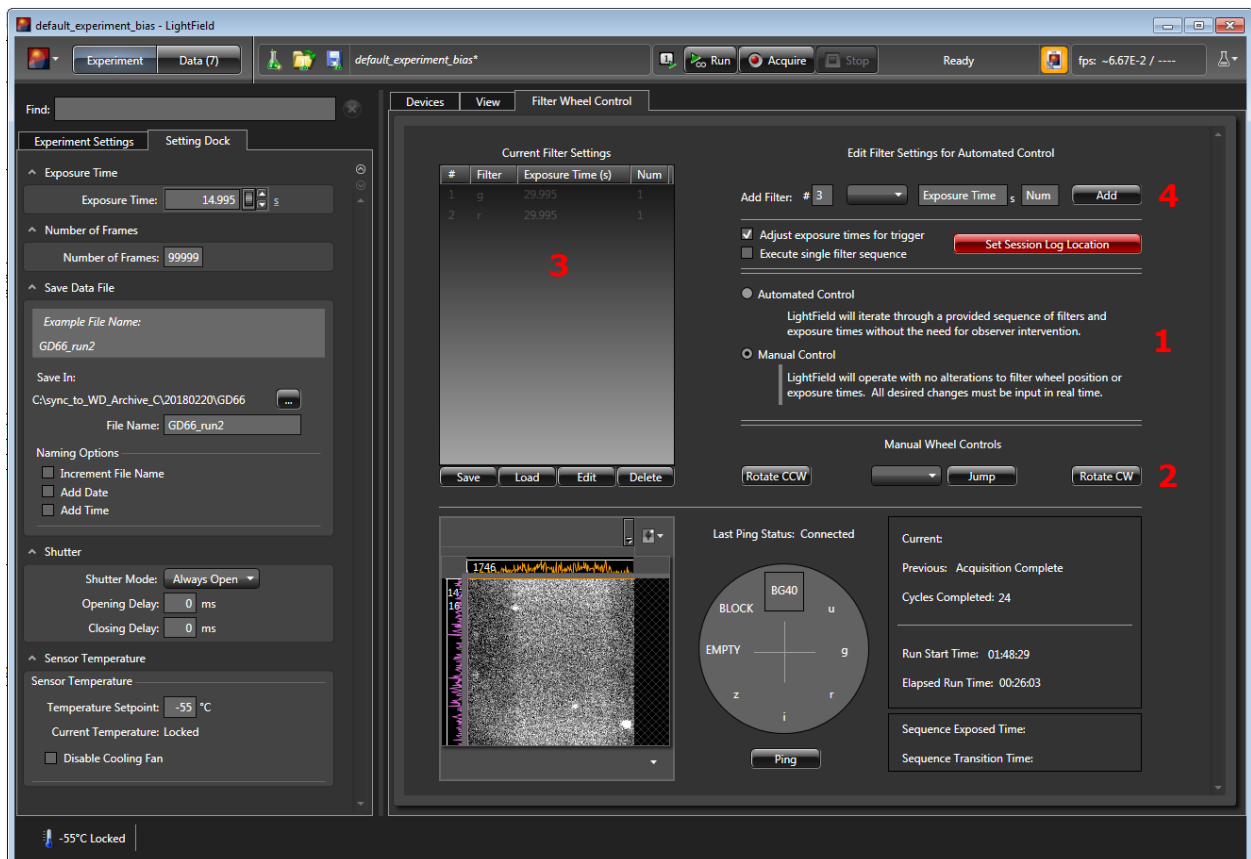

Figure 5: *LightField* filter wheel interface.
5. Here you can switch between a live data readout in “View,” and select your observation filters in “Filter Wheel Control” (see Figure 5).
Figure 5 displays the options in the filter wheel interface: